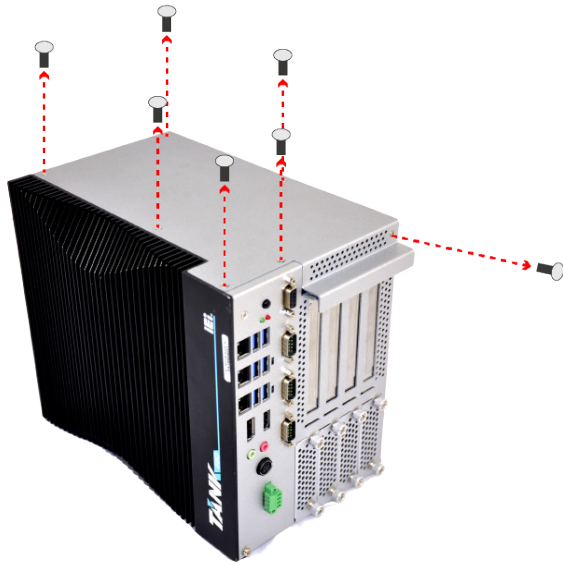

Figure 3-16: iDP Module with Bracket
Step 1: Loosen one screw on the front panel and the top six screws, slide the cover outwards and then lift the cover up gently (Figure 3-16).